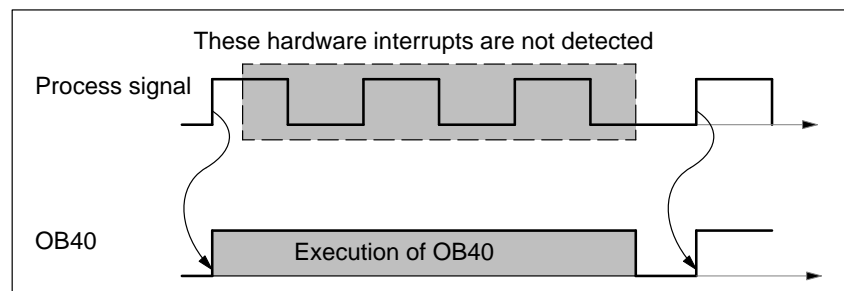

Figure 1-2 Relationship between a Process Signal and the Execution of the Hardware Interrupt OB
- If the event occurs on the channel that previously triggered the hardware interrupt, then the new interrupt is lost. This is illustrated in Figure 1-2 based on the example of a channel of a digital input module. The triggering event is the rising edge. The hardware interrupt OB is OB40.